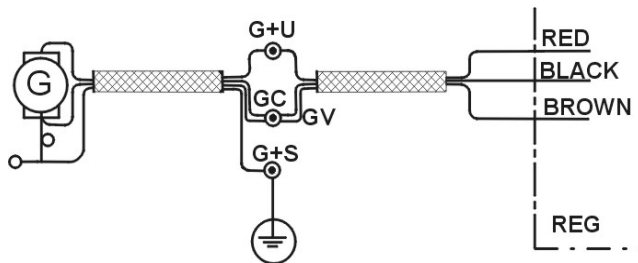

Figure 1-15
- The fourth is for the generator feedback circuits, and consists of two shielded pairs from the controller to the generator armature and the generator inner-poles. [See Figure 1-15.]